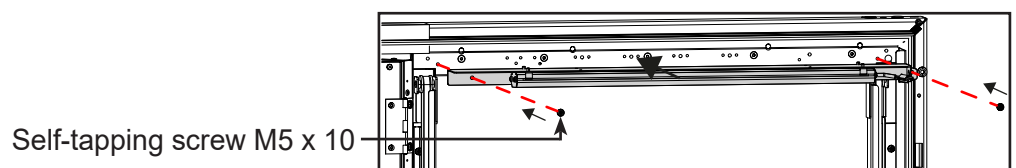

Figure 38
3. Install the LED lighting (Fig. 38).